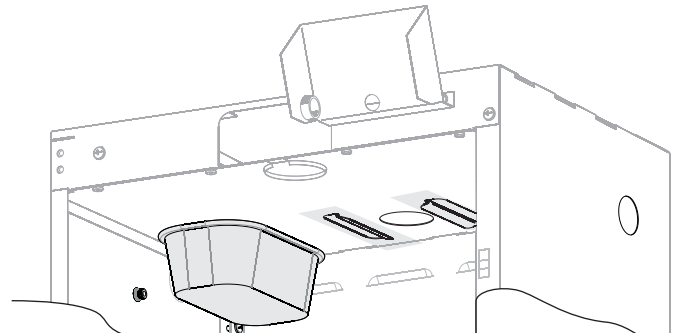

Figure 14
23. Slide Grease Drip Tray into the slots on the underside of the Heat Shield. See Figure 14.